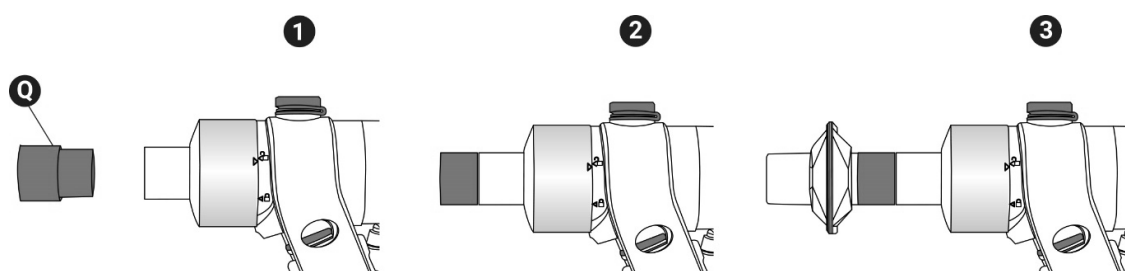

Figure 4: Fitting MIP/MEP Adaptor
8. If a Maximal Inspiratory Pressure (MIP) or Maximal Expiratory Pressure (MEP) test are performed, a MIP/MEP Adaptor must first be attached to Patient Valve, with a BVF then attached to the other end of MIP/MEP Adaptor (Figure 4).
Q	MIP/MEP Adaptor (Figure 4)
13. If a Maximal Inspiratory Pressure (MIP) or Maximal Expiratory Pressure (MEP) test are performed, MIP/MEP Adaptor (Q) must be attached to the Patient Valve, with a BVF then attached to the other end of MIP/MEP Adaptor (Figure 4).